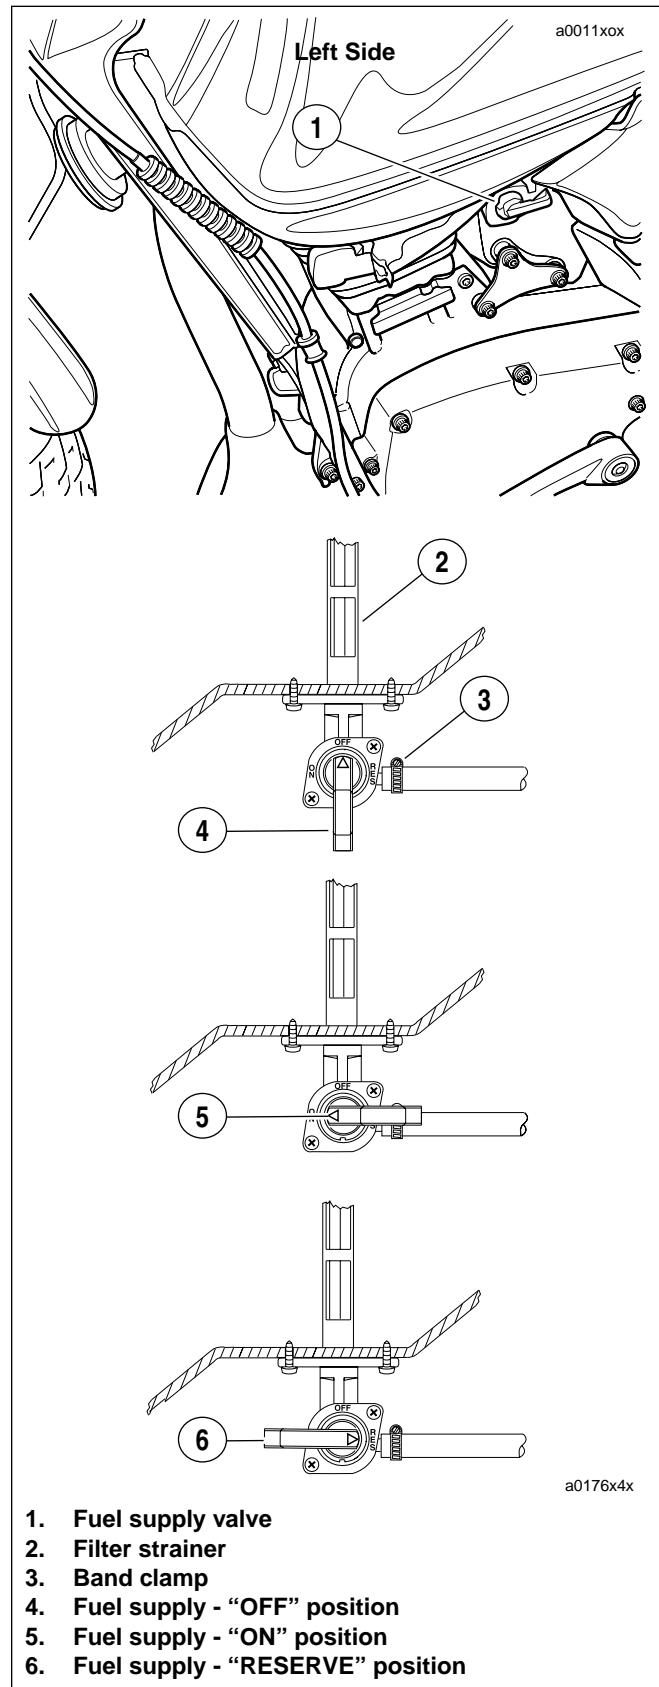

Figure 4-5. Fuel Supply Valve
1. See Figure 4-5. Rotate the 3-position valve handle on the fuel valve to the fully vertical position to shut the gasoline supply to the carburetor OFF.
See Figure 4-5. The fuel supply valve is located under the fuel tank on the left side of the vehicle. The gasoline supply to the carburetor is dependent upon the position of the valve handle.
- a. See Figure 4-5. Rotate handle on the fuel supply valve to the fully vertical position to shut the gasoline supply to the carburetor “OFF”.
- e. See Figure 4-5. Rotate handle of fuel supply valve to “RES(ERVE)” to start the flow of fuel.